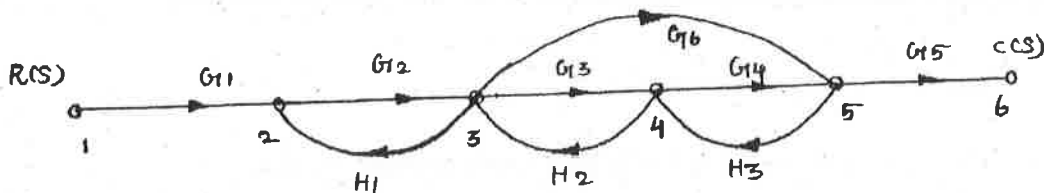

Fig. 2
- (b) (i) Write the rule for eliminating negative and positive feedback in block diagram reduction. (4)
- (ii) The signal flow graph for a feed back control system is shown in Fig. 2. Determine the closed loop transfer function $C(s)/R(s)$. (12)